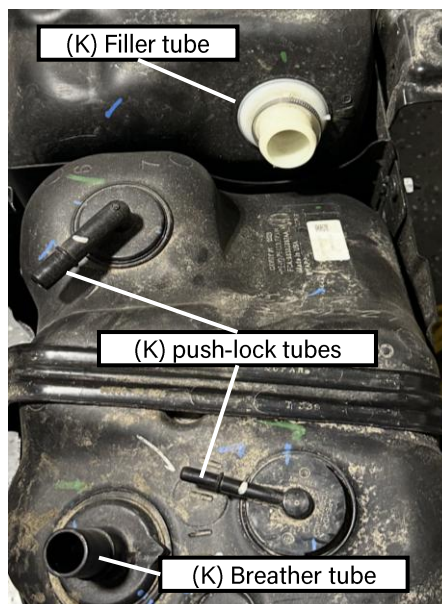

Figure 39: Top-rear connections
- ❑ (K) Access the top-rear of the tank and remove the filler tube, vent tube, and the two small push-lock tubes (Figure 39)